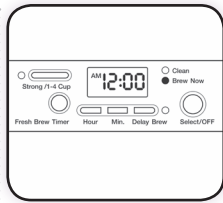

Figure 25
- 4 At the preset time, the **Brew Now** indicator light will turn on and pulse. The **Delay Brew** indicator light will turn off, and the brew cycle will begin. (Figure 25)